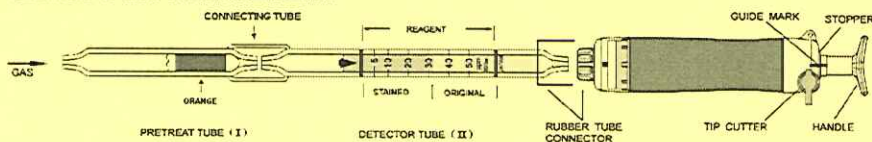

Fig.1
- ① Break both ends of the detector tube (II) and pretreat tube (I), and connect each end of the detector tube (II) and pretreat tube (I) with connecting tube as shown in Fig. 1.
- ② Insert the detector tube (II) into the aspirating pump securely as shown in Fig.1. (Arrow mark shall point to the pump.)
- ③ Align the guide marks on the shaft and stopper of the aspirating pump.
- ④ Pull the pump handle at a full stroke until it locks and wait for 40 seconds or until the completion of sampling is confirmed with the flow indicator of the pump. (See descriptions about the flow indicator in the instruction manual of the pump.)
- ⑤ Push back the handle without removing the detector tube from the rubber tube connector so that air in the pump will be discharged perfectly. Then repeat the step ③~④ twice more.
- ⑥ On completion of sampling, read the scale at the maximum point of the stained layer.